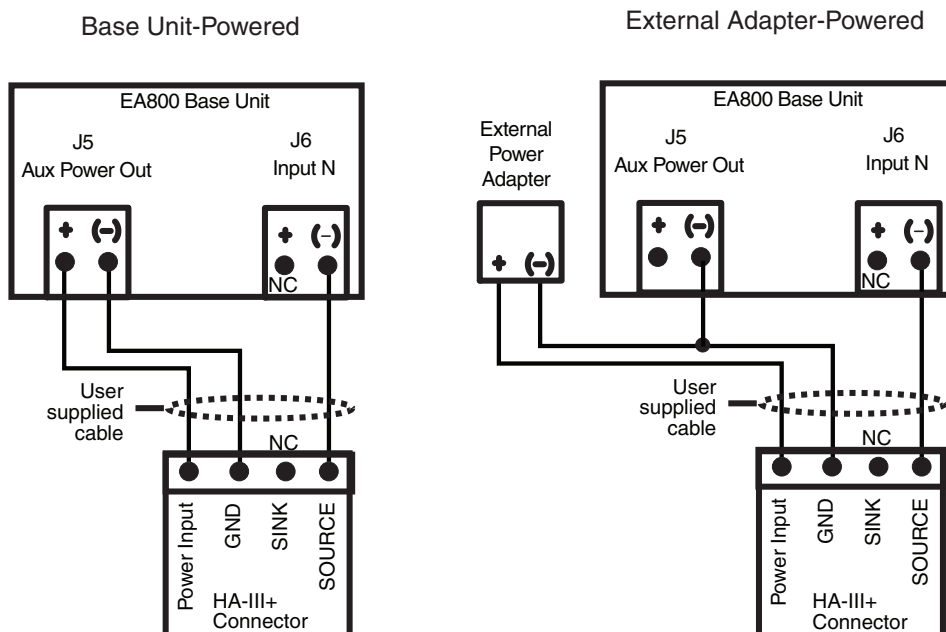

Figure 15 EA800 Base Unit Wired HA-III+ Sensor Connections
4. Insert the stripped wire ends into screw terminals of the adapter as indicated by your EA800 Wiring Diagram you completed in the preparation phase. Observe proper polarity. See Figure 15.